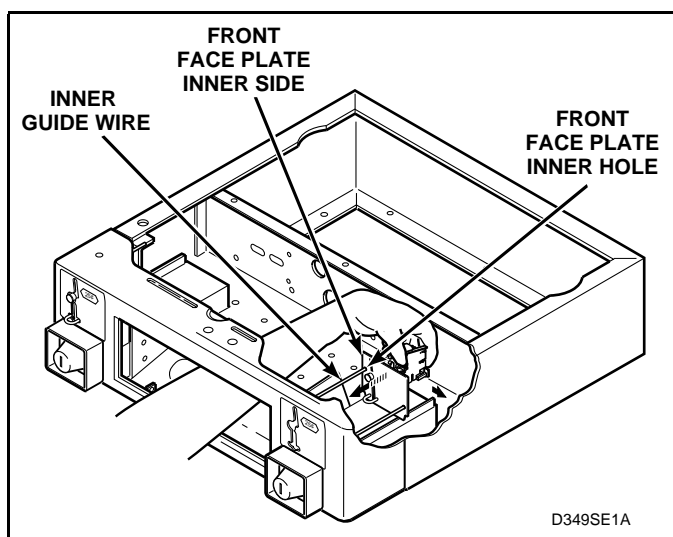

Figure 24
- (3) Pull the inner side of the coin drop's front face plate forward so the inner guide wire enters the front face plate's lower hole. Gently tug coin drop sideways to feel if the inner guide wire has entered the hole. See *Figure 24*.